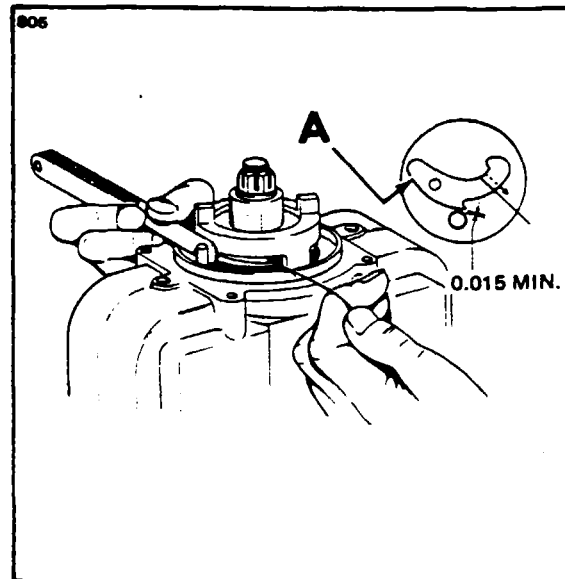

Figure 8-18. Checking Flyweight to Stop Pin Clearance
2. Hold the magneto as shown in Figure 8-18. Pull the heel of the flyweight outward with the fabricated hooked wire and make certain that a feeler gauge of 0.015 of an inch minimum thickness will pass between the stop pin and the highest point of the flyweight.
A true and accurate check of the clearance between the flyweights and stop pins can only be obtained by pulling the flyweight outward as described. Do not attempt the check by pushing in on the flyweight at point "A" of Figure 8-18.